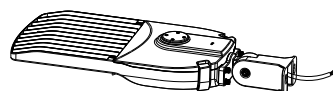

Figure 7
4. Yoke Mounting (YM)
Step 1: Unscrew the bracket mounting screws on the fixture and pass the wires through the bracket. (Figure 7)